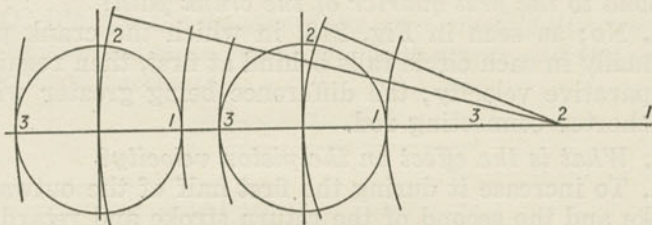

Fig. 213. Influence of Connecting Rod.
*A. No; as seen in Fig. 213, in which the crank pin gradually in each circle falls behind at first, then regains comparative velocity; the difference being greater with the shorter connecting rod.*